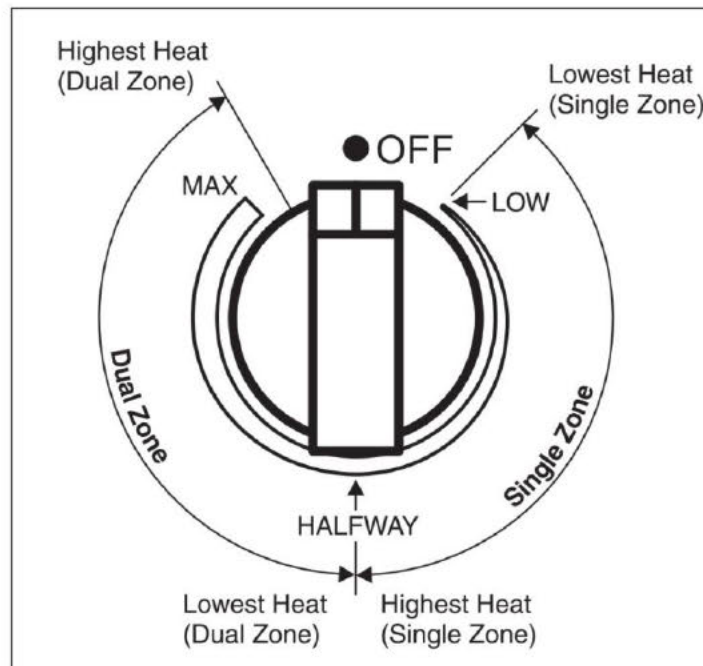

Figure 11
1. Turn the control knob to the desired position (low to high). (See Figure 11)